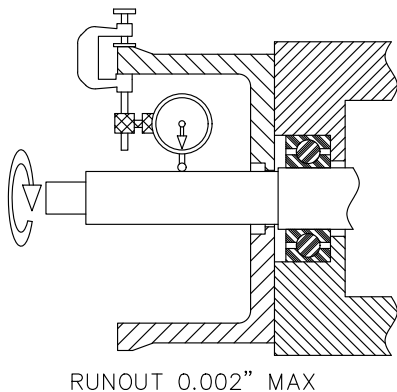
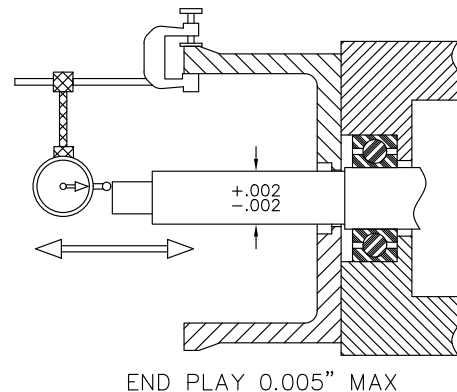
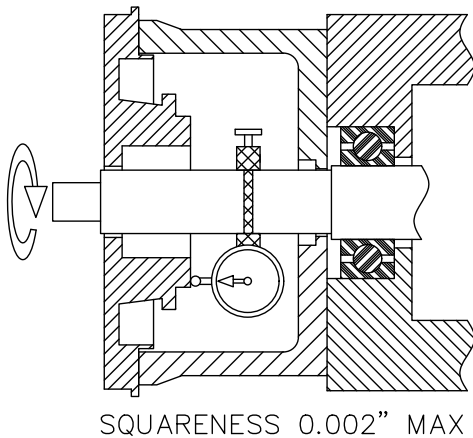

Figure 6-3: Measuring Runout
Figure 6-2: Measuring End Play
Figure 6-4: Measuring SB Squareness
Refer to the manufacturer’s installation, operating, and maintenance instructions. Failure to do so can result in environmental damage, personal injury, and seal malfunction and/or seal failure. As a guideline, Figure 6-3, Figure 6-2 and Figure 6-4 show inspections that should be done prior to installing the seal.
1. Check the runout, end play and stuffing box squareness as shown in Figure 6-3, Figure 6-2 and Figure 6-4.